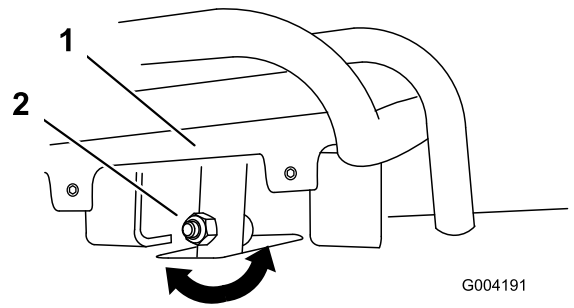
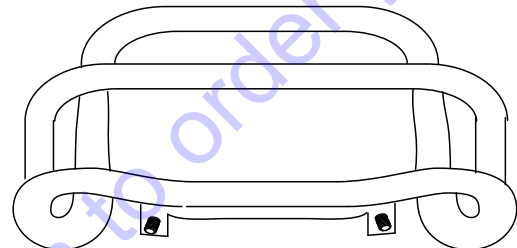

Figure 56
Figure 57
4. If the front of the traction control does not rest square and flush with the reference bar, loosen the flange nut and bolt in the stem of the traction control (Figure 56).
5. Adjust the traction control so that it rests flush against the reference bar when you pull it straight back (Figure 56 and Figure 57).